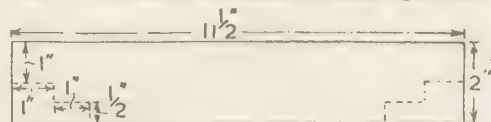

Fig. 2 Top view showing corner saw cuts
One pennant piece in Fig. 2 is now gummed under Fig. 1A and the other pennant under the reverse end. Then the whole thing is gummed down at the areas marked (G). You will find it most useful to have a supply of pins at hand while gumming to hold the various parts in position. If there is very little lettering on the card the bow may be decorated with a little fern.